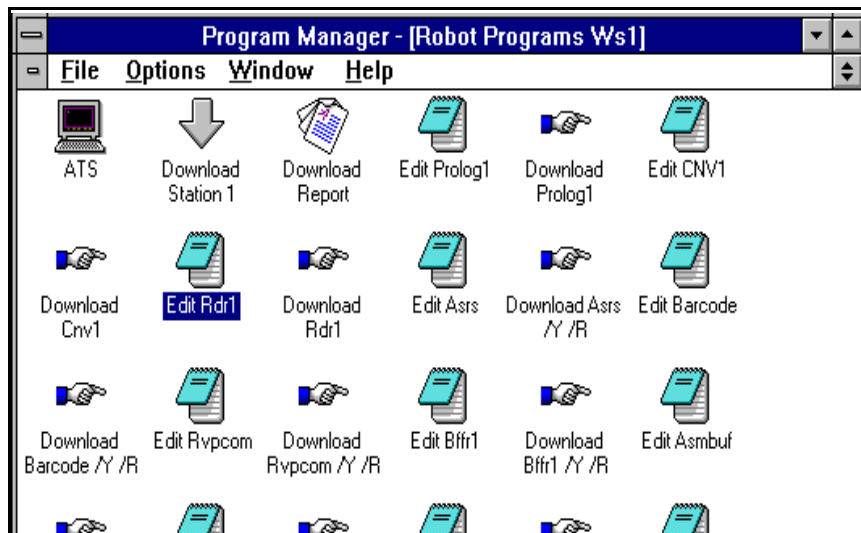

Figure 8: Robot Programs at Workstation 1 Group Window
2. Open the **Robot Programs WS1** group window. See Figure 8.